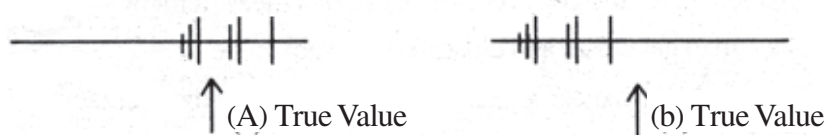

Fig 1 : Set of results (a) without systematic error and (b) with a systematic error
2. **Random errors:** These are errors in an experiment due to which the result of measurement can be either more, or less, than the true value, e.g. parallax error in reading a scale - a limitation of the instrument as well as of the observer. In observing temperature by a thermometer, thickness of the thermometer may cause the error of -parallax and error may be there in measurement if one observer keeps his line of sight within $\pm 50^\circ$ of the direction accurately perpendicular to scale (Fig. 5) and another within $\pm 20^\circ$ of it. Due to random errors in repeat measurements the results are found to vary over a small range. Referring to figure 1(a) if there is no systematic error, the results are spread around the true result (of course you never know it exactly). If there exists a systematic error, results of repeat measurements are spread away from the true result (Fig. 1 b).